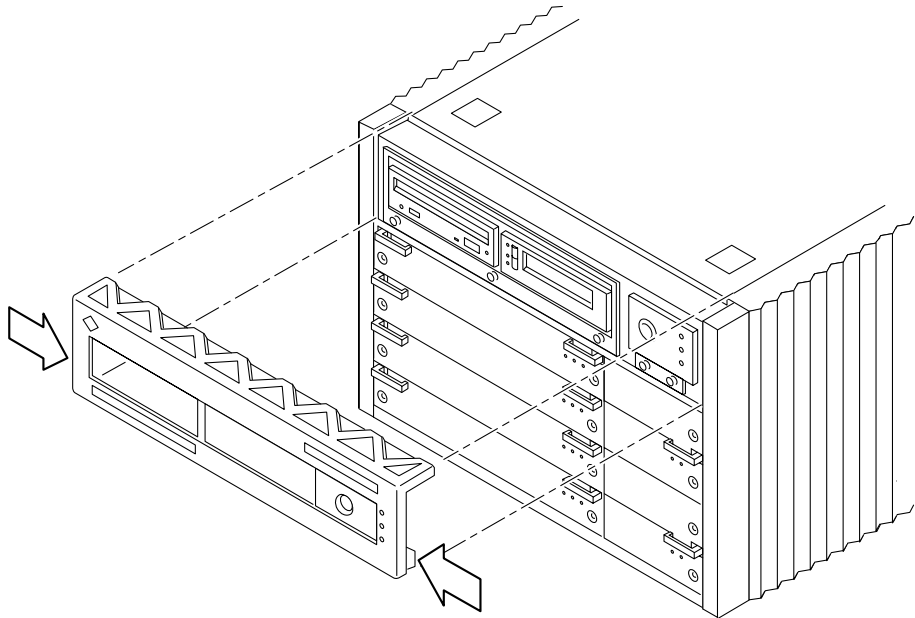

FIGURE 8-6 Removing the Front Panel Bezel
- b. **Tilt the bezel up 45 degrees to remove it (FIGURE 8-6).**